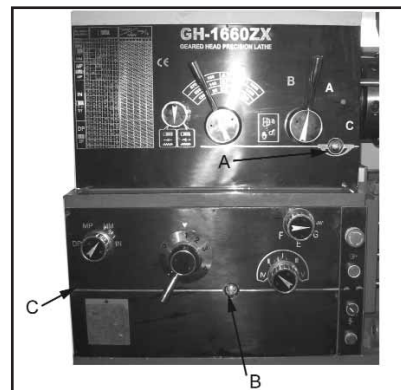

Fig. 4
1. **Headstock** - Oil must be up to indicator mark in oil sight glass (A, Fig. 4). Top off with Mobil DTE® Oil Heavy Medium. Fill by removing the plug on the top of the headstock. To drain, remove drain plug on the left side of the headstock at the lower rear corner. Drain oil completely and clean out all metal shavings. Refill after the first month of operation. Then change oil in the headstock every two months.
2. **Gearbox** - Oil must be up to indicator mark in oil sight glass (B, Fig. 4). Top off with Mobil DTE® Oil Heavy Medium. To add oil to the gearbox, remove two screws on the top cover. To drain, remove drain plug (C, Fig.4) on the left side of the gearbox. Drain oil completely and refill after the first three months of operation. Then change oil in the gearbox every six months.